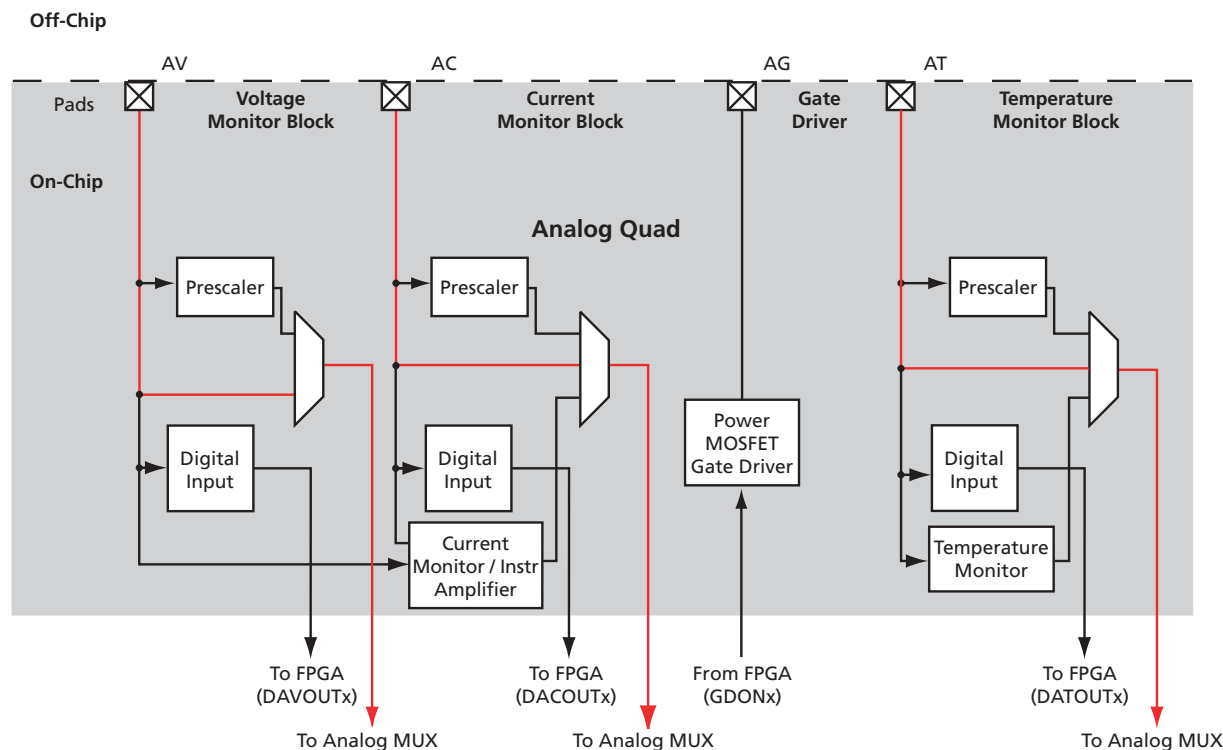

Figure 2-67 • Analog Quad Direct Connect
The Fusion Analog Quad offers a robust set of voltage-monitoring capabilities unique in the FPGA industry. The Analog Quad comprises three analog input pads— Analog Voltage (AV), Analog Current (AC), and Analog Temperature (AT)—and a single gate driver output pad, Analog Gate (AG). There are many common characteristics among the analog input pads. Each analog input can be configured to connect directly to the input MUX of the ADC. When configured in this manner (Figure 2-67), there will be no prescaling of the input signal. Care must be taken in this mode not to drive the ADC into saturation by applying an input voltage greater than the reference voltage. The internal reference voltage of the ADC is 2.56 V. Optionally, an external reference can be supplied by the user. The external reference can be a maximum of 3.3 V DC.